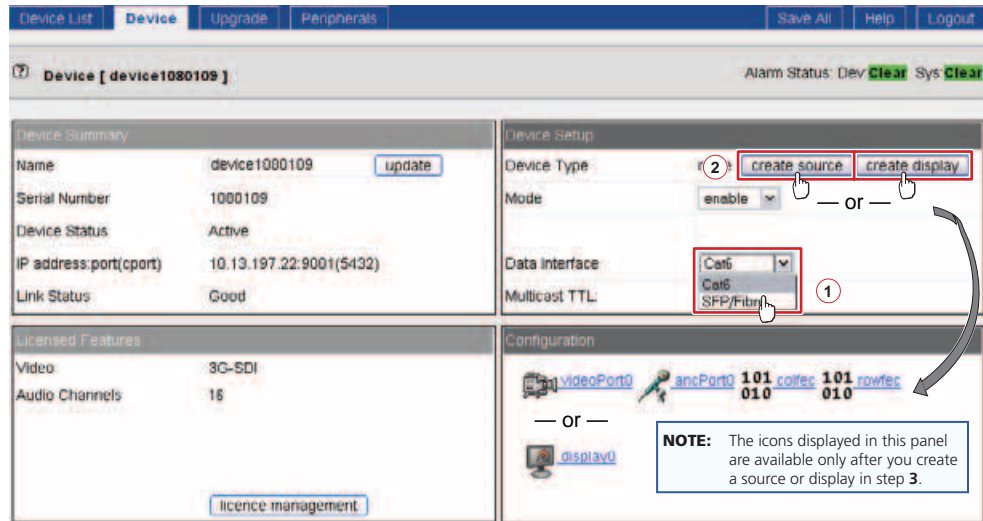

Figure 19. Configuring a Codec as a Source or Display
1. On the device list page, click anywhere on the row (except the Delete column) for the device to be configured (item ① in **figure 18**). This selects that device and displays the device page (see **figure 19**).
2. In the Device Setup panel, click the Data Interface drop-down box (① in **figure 19**) and select either of the following as the cable to output or receive the video signal.
3. In the Device Setup panel (② in **figure 19**), configure the device as either an encoder or decoder as follows:
1. If necessary, click the **Device** tab to display the device page (see **figure 19**). Device